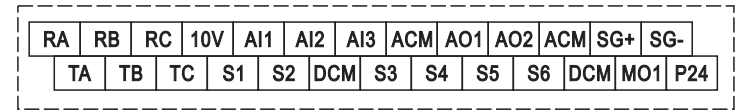

Figure 3-4: Schematic diagram of main control board wiring terminal
1) Schematic diagram of control circuit wiring terminal (Figure 3-4)